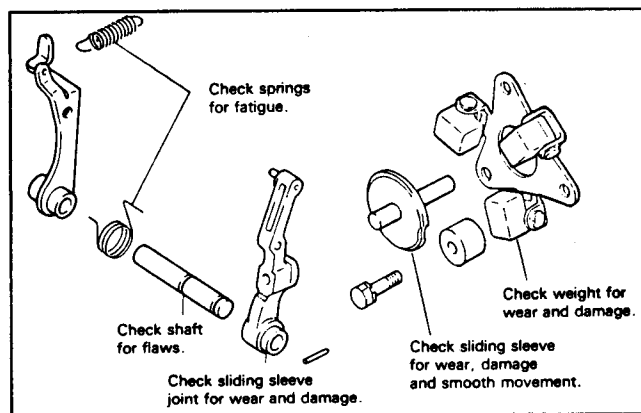

Figure 84
8. Check the governor parts for wear or damage (Fig 84). Replace parts as necessary.